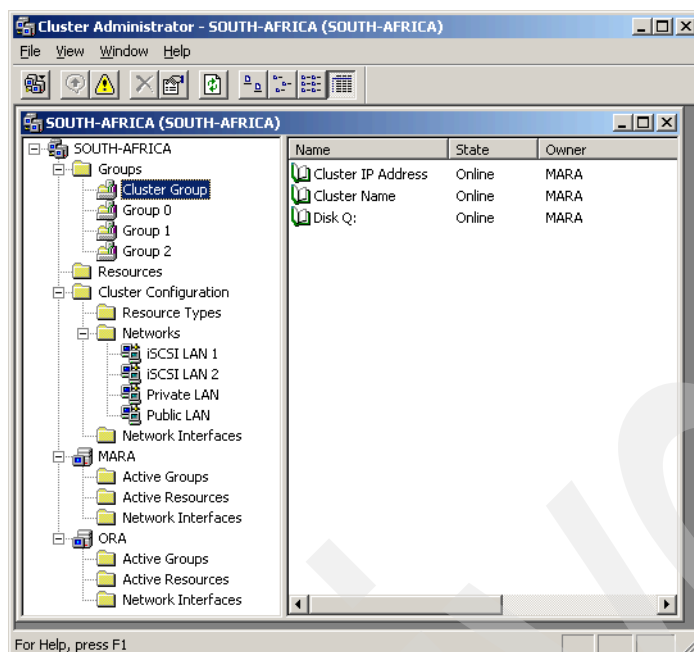

Figure 23-60 Cluster with both nodes running
12. The Cluster Administrator in Figure 23-60 shows that the cluster is now running with two cluster nodes.